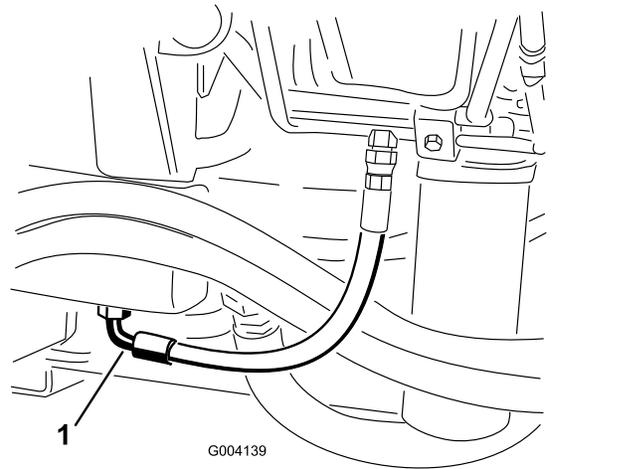

Figure 90
2. Place a large drain pan under the fitting secured to the bottom of the hydraulic-fluid reservoir (Figure 90).